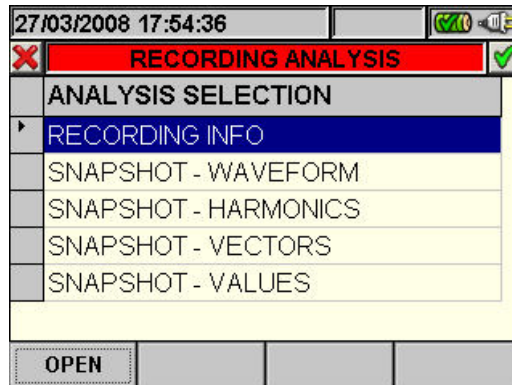

Fig. 114: Recording analysis (Istant-type data)
2. Press the **ESC** key (or the smart icon  on the display) to exit the function and go back to the "Recording analysis" page (Fig. 114).
- The **ESC** key (or the smart icon on the display) to exit the function and go back to the "Recording analysis" page (Fig. 114).
- The **ESC** key (or the smart icon on the display) to exit the function and go back to the "Recording analysis" page (Fig. 114)